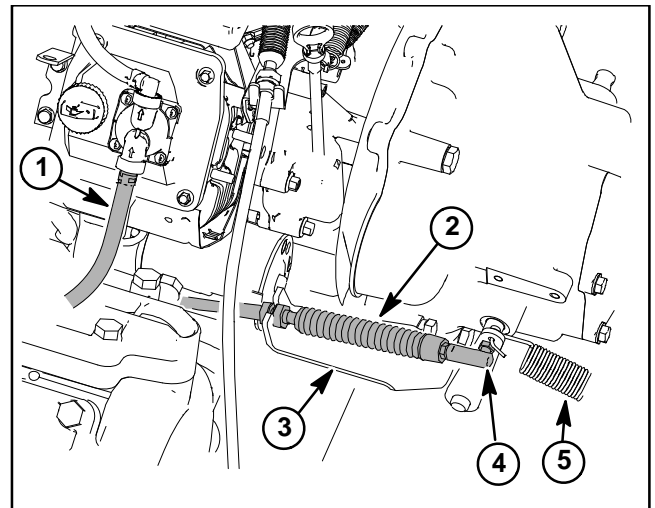

Figure 13
11. Remove clutch cable from bracket on clutch housing (Fig. 13). Remove ball joint lock nut and ball joint from throwout lever, loosen cable bulkhead nuts, and remove clutch cable from bracket. Remove the return spring.
C. Secure engine mounting plate assembly to frame with four (4) cap screws, washers and flange nuts. Tighten flange nuts from **67 to 83 ft-lbs (91 to 113 N-m)**.
5. Install clutch cable to bracket on clutch housing (Fig. 13). Set bulkhead nuts so an equal amount of cable housing thread appears on each side of the cable bracket and tighten bulkhead nuts. Install ball joint to throwout lever with lock nut and tighten. Install return spring. Adjust clutch cable (see Clutch Cable Adjustment in this chapter).